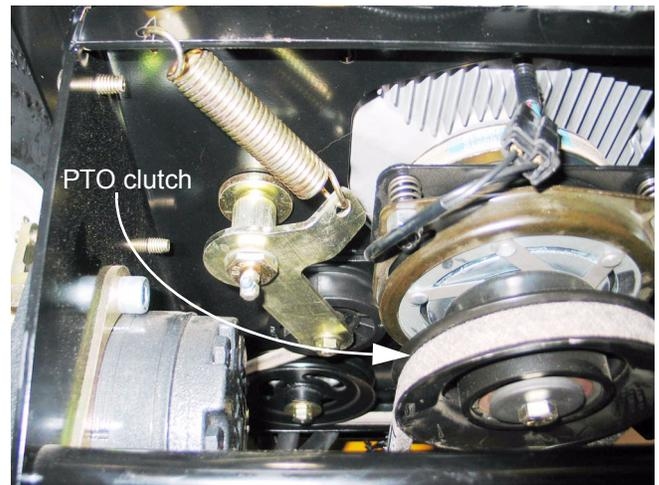

Figure 28.8
28.8. **PTO clutch:** The PTO clutch is an Ogura model JD08 with brake (BBC). See Figure 28.8.